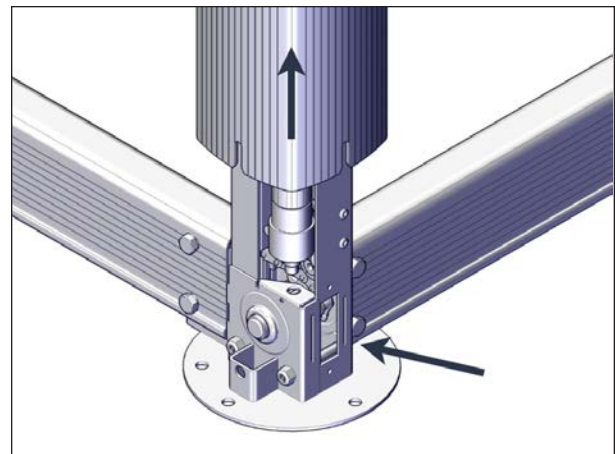

FIGURE 82: ACCESS TO THE CHAINS
2. Lift up the sleeve by hand and keep it safely in position with a wooden block, see Figure 82.
3. Locate the chain inside the post. The opening at the bottom of the post allows access to the chain, see Figure 82.